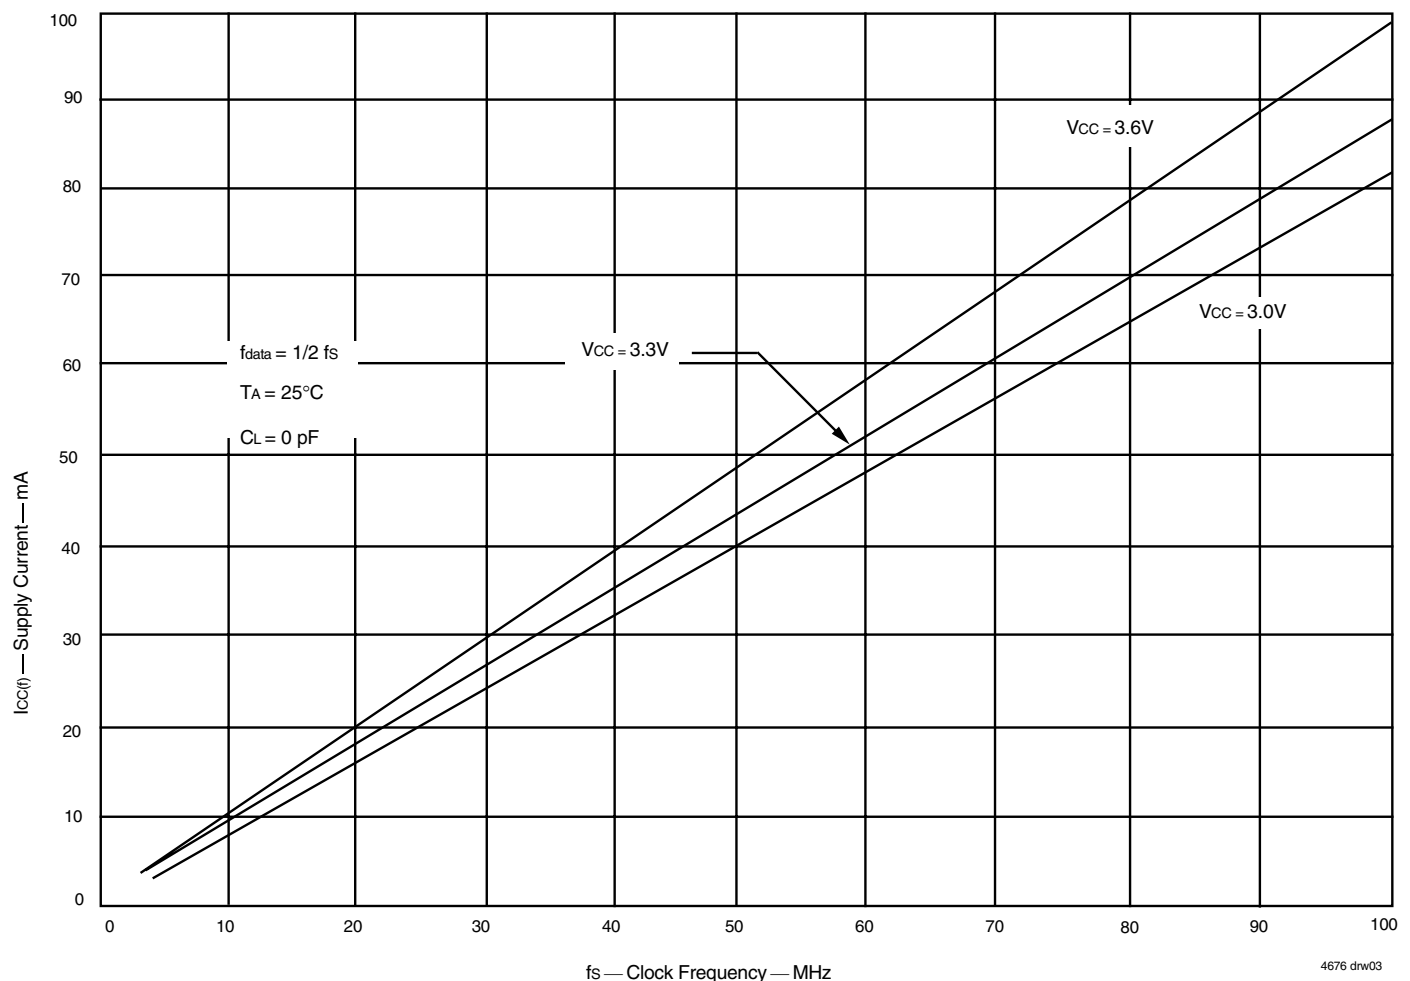

Figure 1. Typical Characteristics: Supply Current (I_{CC}) vs. Clock Frequency (f_s)
- For additional I_{CC} information, see Figure 1, *Typical Characteristics: Supply Current (I_{CC}) vs. Clock Frequency (f_s)*.
The $I_{CC(f)}$ current for the graph in Figure 1 was taken while simultaneously reading and writing a FIFO on the IDT72V3686/72V3696/72V36106 with CLKA, CLKB and CLKC set to f_s . All data inputs and data outputs change state during each clock cycle to consume the highest supply current. Data outputs were disconnected to normalize the graph to a zero capacitance load. Once the capacitance load per data-output channel and the number of these device's inputs driven by TTL HIGH levels are known, the power dissipation can be calculated with the equation below.
With $I_{CC(f)}$ taken from Figure 1, the maximum power dissipation (P_T) of these FIFOs may be calculated by: